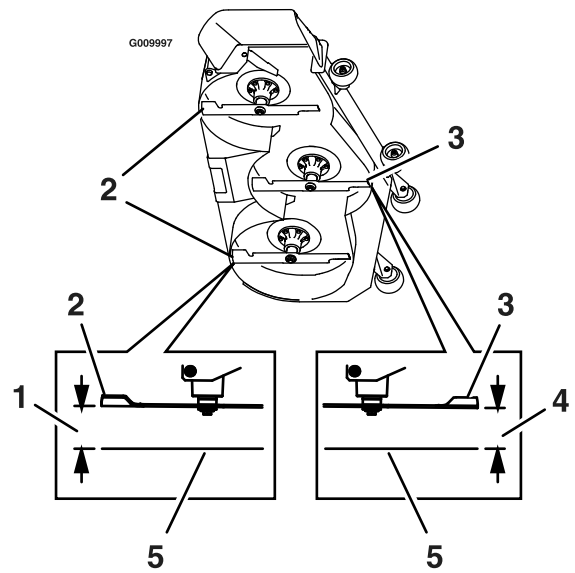

Figure 81
- Measure from the level surface to the front tip of the center blade (Figure 81).